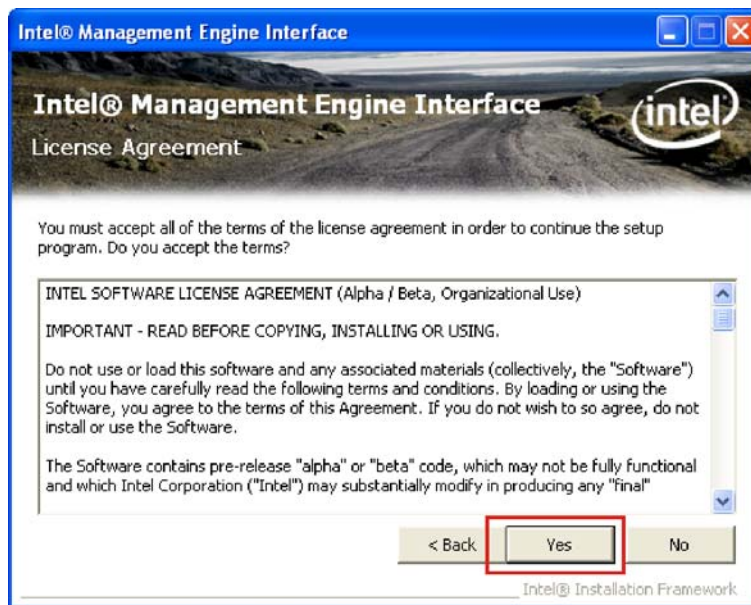

Figure 6-39: IAMT License Agreement
Step 5: The License Agreement appears (Figure 6-39).